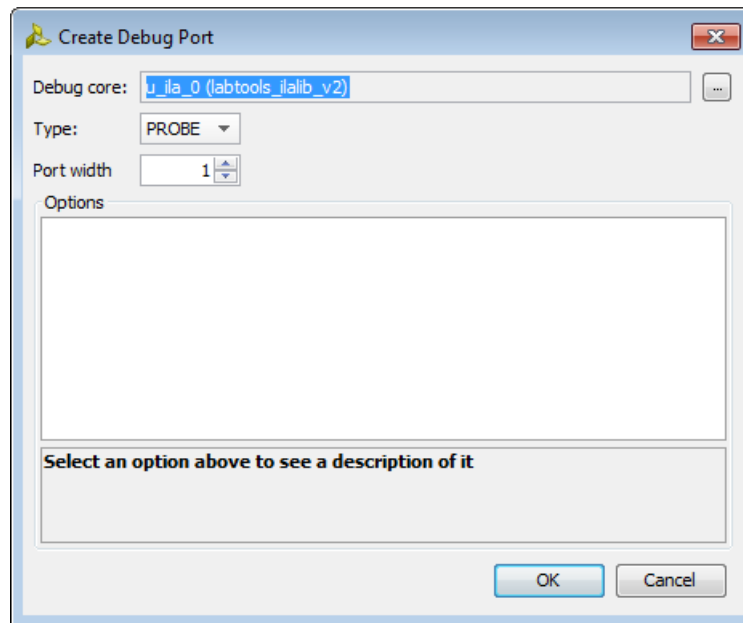

Figure 4-4: Creating a New Debug Port
2. Click **Create Debug Port** to open the dialog shown in Figure 4-4.